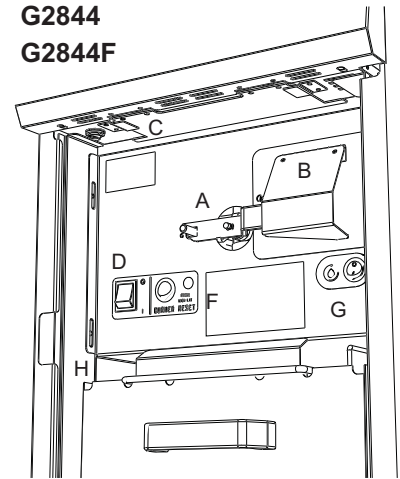

Figure 4 – G2844 & G2845 - Additional Controls
### 2.4.3 G2844/G2845/G2844F/G2845F - Additional Controls (See Figure 4)
9. Press lockout reset switch. See Figure 4 (*Lock out indicator will extinguish*).
To re-set temperature limit thermostat, refer to Figure 4.
**Note: This can be achieved by removing LH side panel only and/or access plate. Refer to Section 2, Figure 4.**